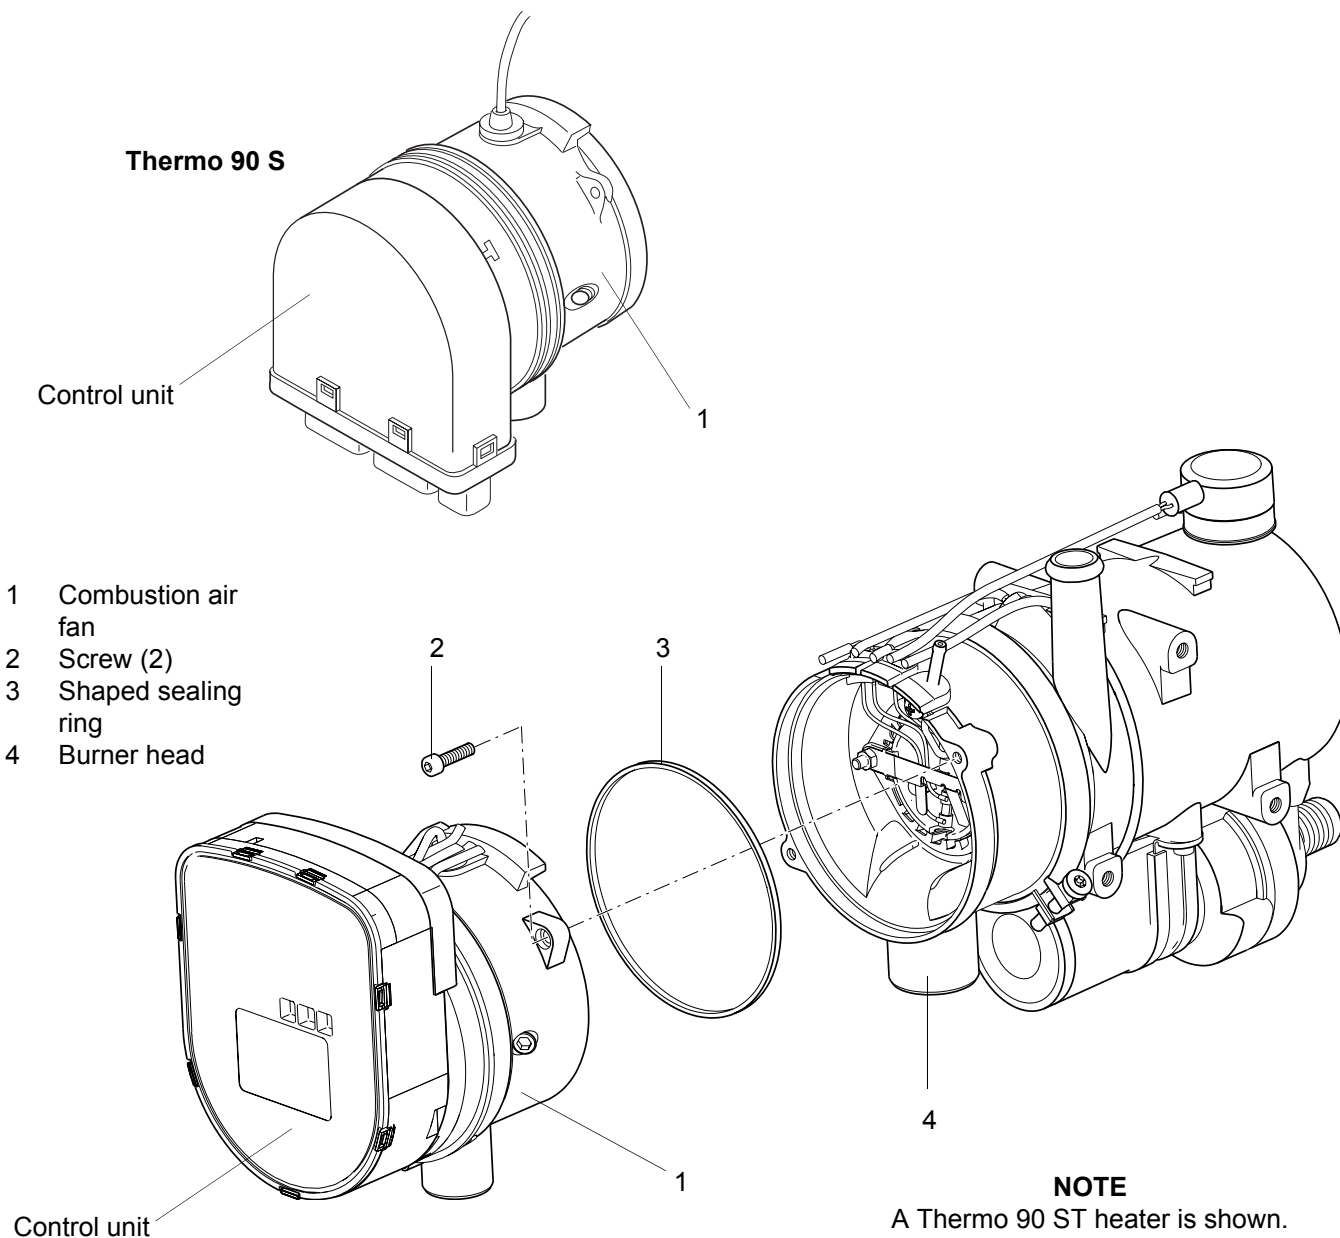

Fig. 904 Changing the combustion air fan
1. Apply acid-free grease (Vaseline) to the round sealing ring (5, Fig. 904).
2. Fit the temperature sensor (6) with the round sealing ring (5) and screw it into the heat exchanger (4). Tighten to 1.5 Nm \pm 10%.
3. Remove the screws (2, Fig. 904).
4. Pull the combustion air fan (1) off the burner head (4) and remove together with the shaped sealing ring (3).
Insert the shaped seal (3, Fig. 904) correctly and grease it (e.g. with Vaseline). Take care not to squash it.